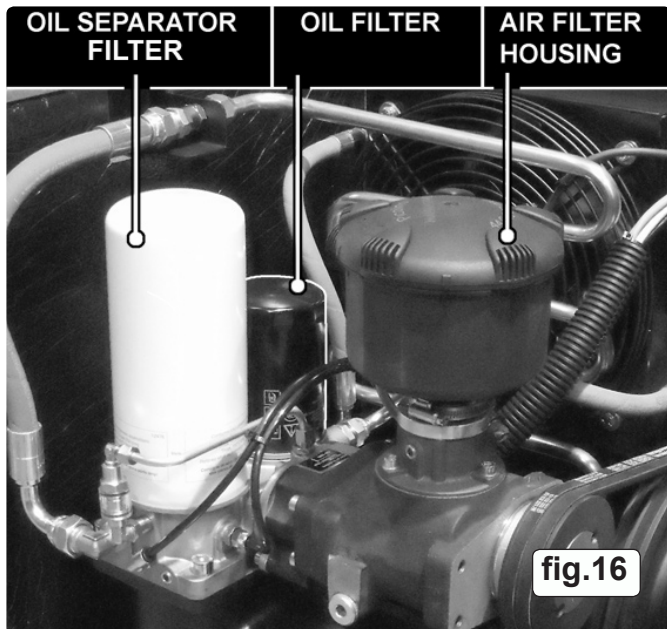

fig.16
Replace the oil filter after the first **500 hours** of use then every **2500/3000 hours** and in any event, each time the oil is changed. Refer to fig.16.
- 7.4.1. Refer to fig.16. Loosen and remove the four bolts retaining the front panel using a 3mm hex key. Lift off the panel and put to one side.
- 7.5.1. Referring to fig.16. Loosen and remove the four bolts retaining the front panel using a 3mm hex key. Lift off the panel and put to one side.